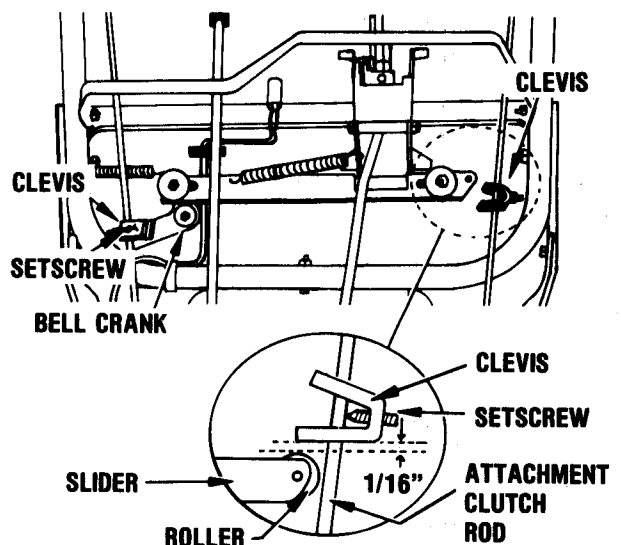

FIGURE 20
MECHANICAL INTERLOCK — FIGURE 20
- b. Release Traction Clutch Lever ("UP" position). Pull bell crank down until slider is at end of slot. See Figure 20. Secure clevis to traction clutch rod at this position with setscrew.
- c. Engage both clutch levers ("DOWN" position). Adjust clevis on attachment clutch rod to where it clears roller in slider by 1/16". Secure clevis with setscrew at this position. See Figure 20.